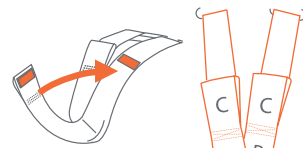
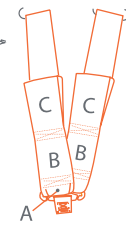

Fig. 34-3
Fig. 34-4
13. Fold webbing over metal plate and secure with hook and loop fastener (Fig. 34-3 Fig. 34-4).